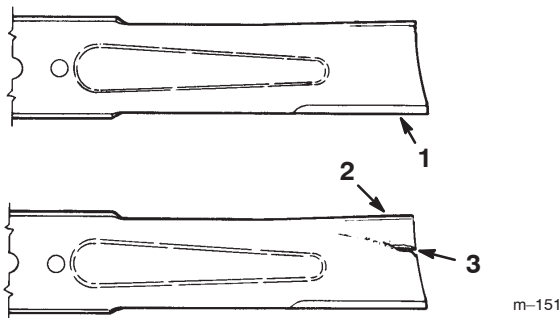

Figure 19
1. Inspect the cutting edges (Fig 19).
2. Inspect the blade, especially the curved area (Fig. 19).
If you notice any damage, wear, or a slot forming in this area (item 3 in Fig. 19), immediately install a new blade.